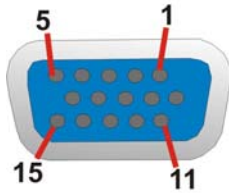

Figure 3-25: VGA Connector
- CN Pinouts:** See **Figure 3-25** and **Table 3-27**